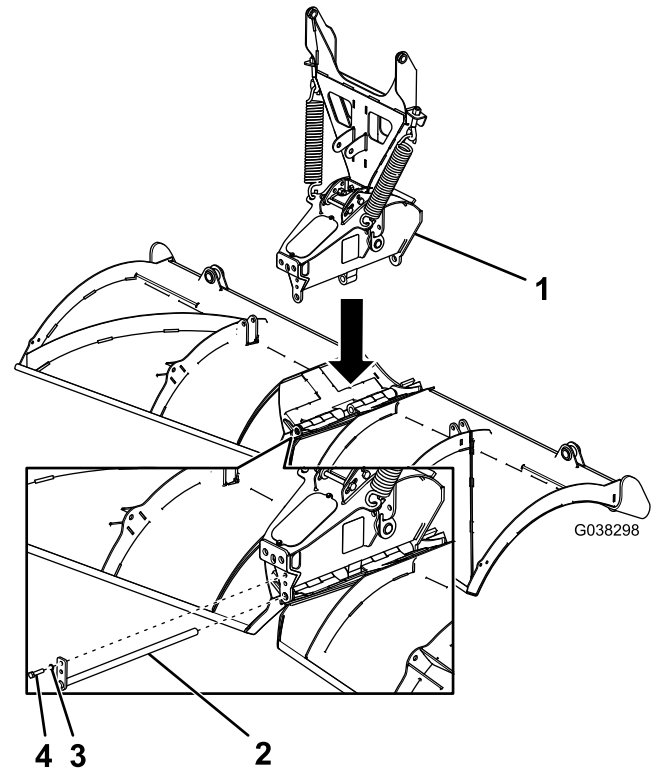

Figure 4
2. Insert the push-frame assembly between the blade hinges and secure all 3 pieces together with the center hinge pin, split lock washer (3/8 inch), and bolt (3/8 x 1-1/2 inches) with nylon lock patch (Figure 4).